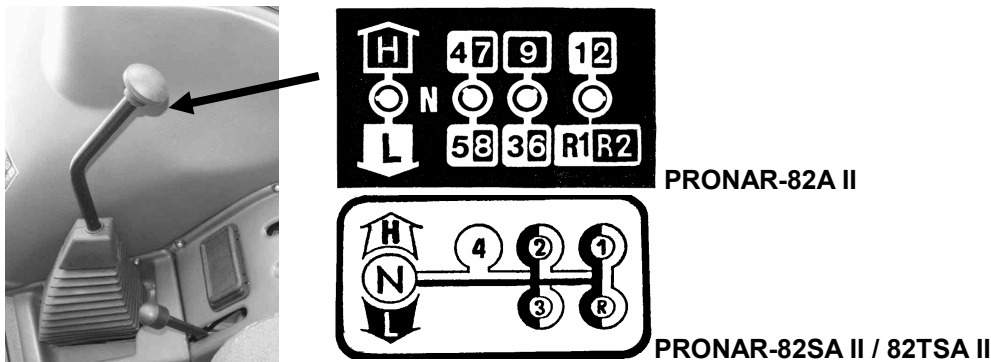

Fig. E-4a The gearbox lever of PRONAR-82A II / 82SA II / 82TSA II tractors.
- make sure that the gearbox lever (**fig. E-4a**) is set to H or L (pay attention to the gearbox control scheme at the console on the right side of the cab).
- with the gearbox lever (**Fig. E-4a**) activate the reduction gear of the gearbox: